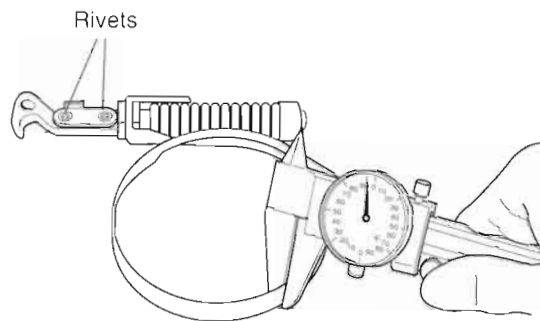

Figure 10.16 Check Band Thickness
- Inspect the brake band for proper thickness (Figure 10.16) and also for possible wear or "slotting" from the band supports on the cassette casting.